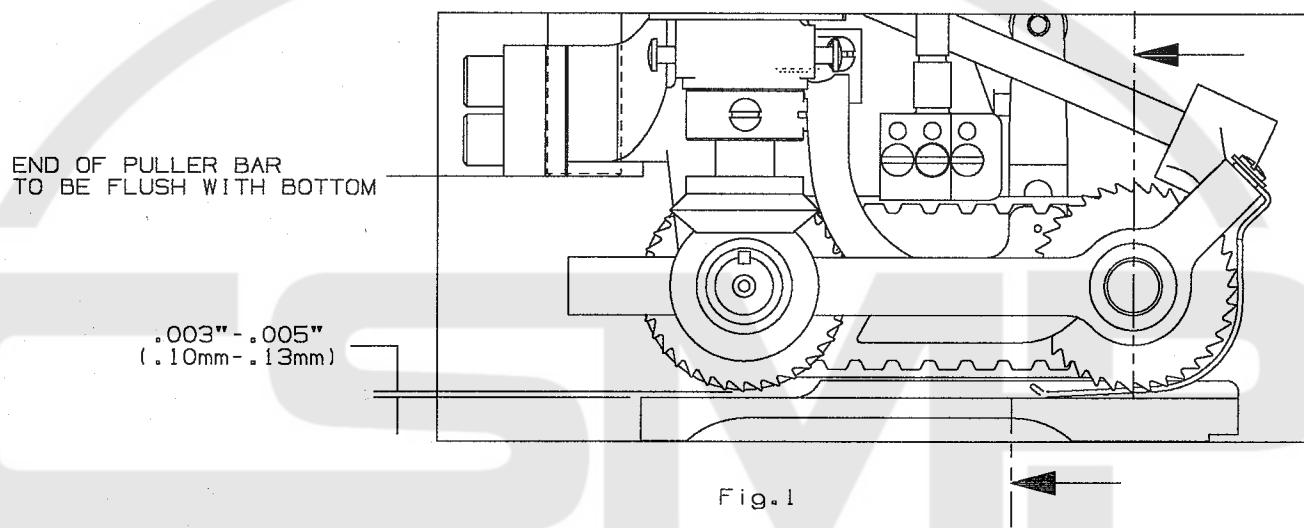

Fig. 1
1. When feed roller mechanism (C, Fig. 3) has been removed or replaced, .003" (0.10mm) minimum to .005" (0.13mm) maximum clearance should be maintained between rear roller and throat plate, see (Fig. 1).